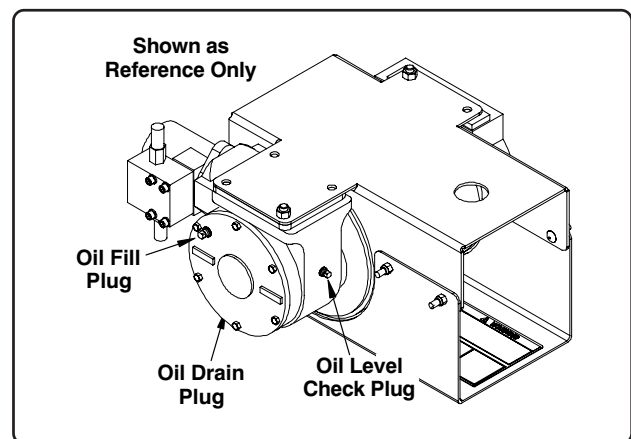

Fig. 10
2. Remove the level check plug from the winch gearbox (the plug is located on the opposite side from the relief valve, See Fig. 10). Oil should begin to leak from the opening. If it does, oil level is sufficient, reinstall plug.